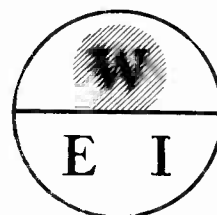

Figure 9
Now, suppose we desire to know the relation of watts to current and voltage. We cover (W) which stands for watts and find that (W) is equal to  $E \times I$ , which is the equivalent of the relation expressed by the formula  $(W = EI)$ . See Figure 9. The relation of current to watts and voltage may be found in the same way by covering (I).